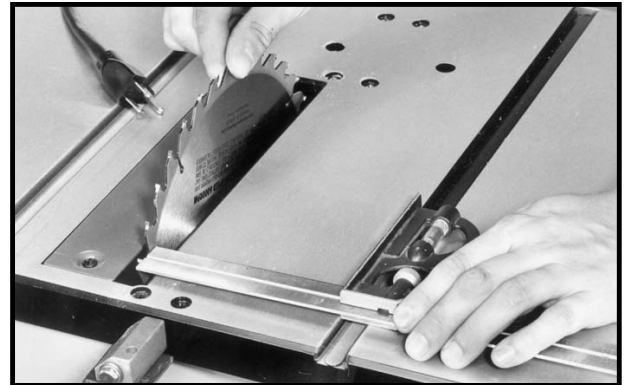

Fig. 43
5. Rotate the blade and check the same marked blade tooth at the rear of the saw table in the same manner, as shown in Fig. 43.